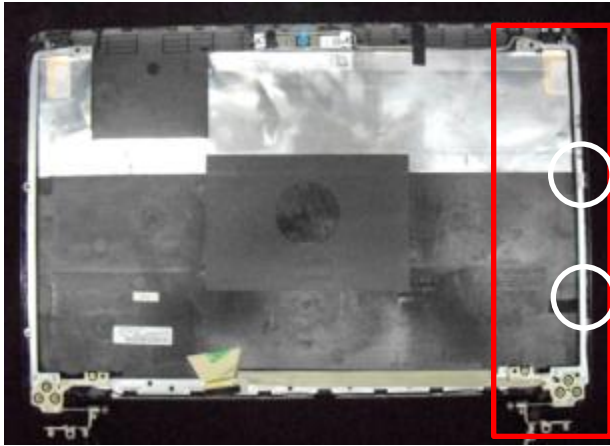

Fig.1
1. Disassembly Hinge bracket-R (Fig.1) and recycle it .